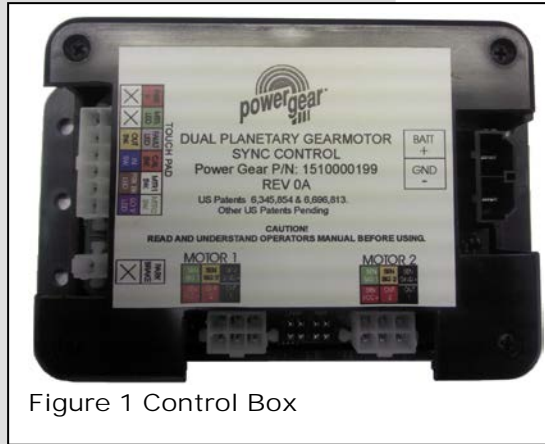

Figure 1 Control Box
1. Mount the **CONTROL BOX** (FIGURE 1, page 1) in a clean and dry, weather tight location that will keep it from being damaged, but is easily accessible for service. **The control is not waterproof.**